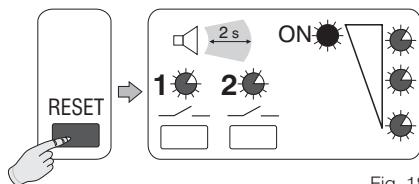

Fig. 18
- Briefly press the “**RESET**” key: when it is released, all the **LEDs** will light together with a beep and the **ON LED** will be steady lit (fig. 18).